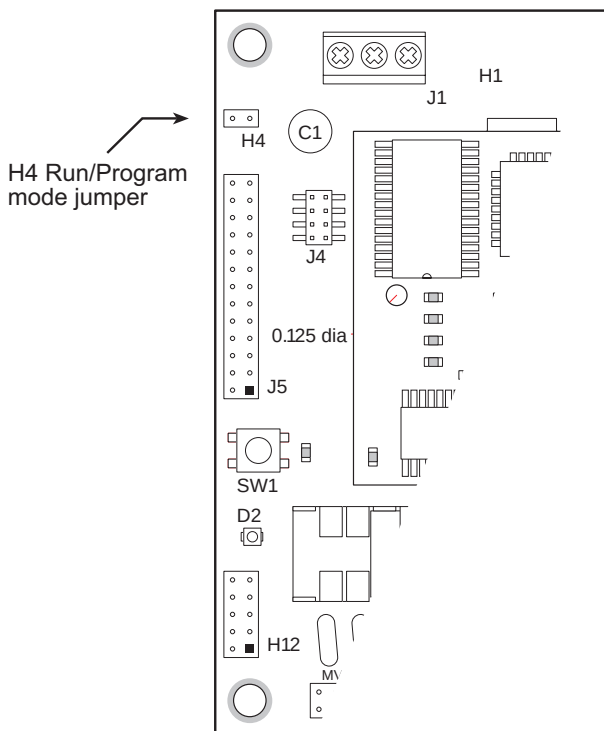

Figure 3-1. H4 Run/Program Jumper Location
1. Locate the **Run/Program** jumper on header H4. Figure 3-1 shows the location of header H4.
1. Re-install the **Run/Program** jumper on header **H4**. Refer to Figure 3-1 for the jumper location.